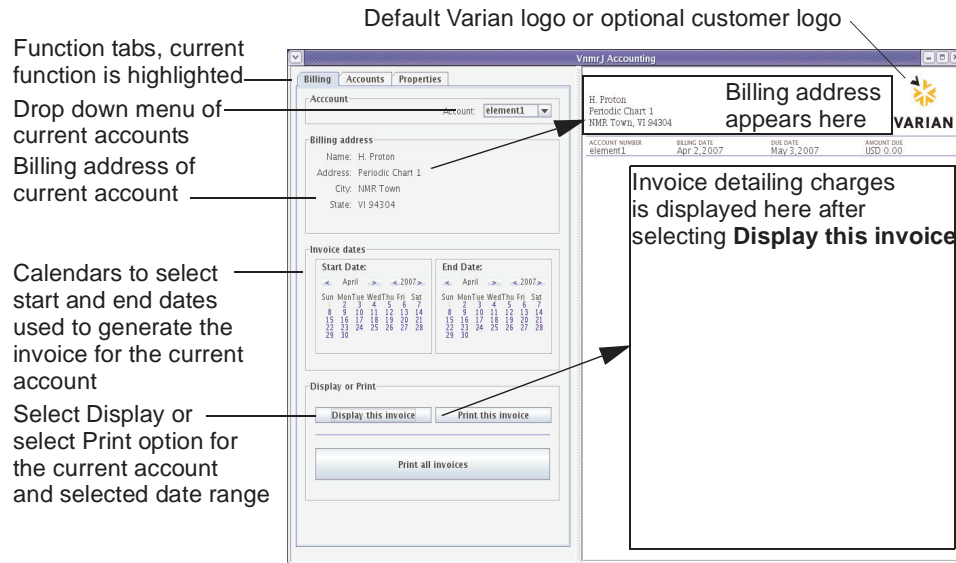

Figure 8. VnmrJ Accounting Billing Window
The accounting billing window, similar to the one shown in Figure 8, opens when VnmrJ Accounting is started.
- Click on the **Display this invoice** button to display the invoice on the right side of the Billing tab, see Figure 8.